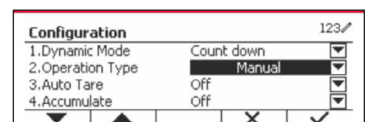

Figure 78
2. Select the list item and press the softkey corresponding to the  icon to change setting. (See Figure 78)